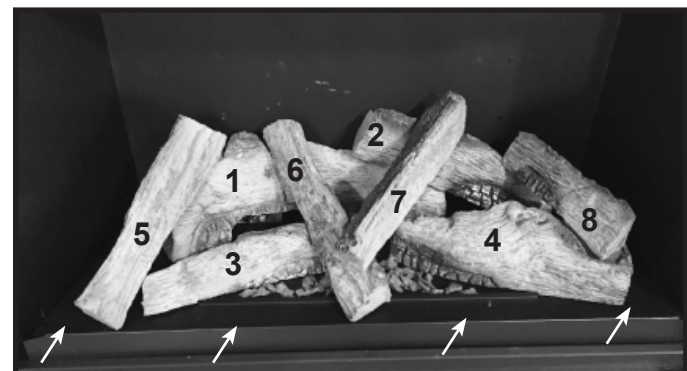

Figure 13. Install Top Right Log and Lava Rock Locations
11. The top right log (8) will rest on two voids shown in Figure 12, install log by placing it on top of these voids. See Figure 13. 12. This product is shipped with a bag of Lava Rock. Roughly one half of the bag will be used for initial setup, the other half of the bag should be placed in the unit manual bag assembly and left with the homeowner. Do not store beneath the appliance.
Install Lava Rock by placing it (by hand) in the locations denoted by arrows in Figure 13. Care should be taken to avoid placing lava rock on the burner.